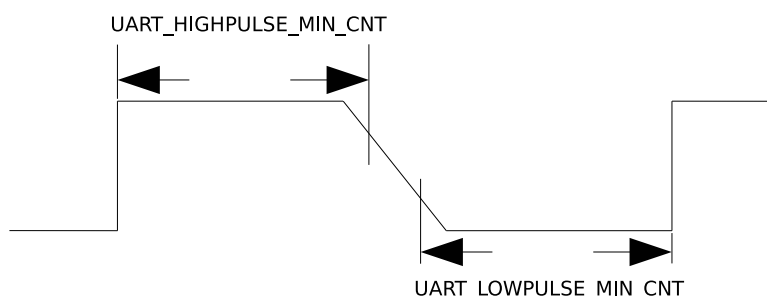

Figure 26.4-3. The Timing Diagram of Weak UART Signals Along Falling Edges
2. If UART signals are weak along falling edges as shown in Figure 26.4-3, which leads to an inaccurate average of `UART_LOWPULSE_MIN_CNT` and `UART_HIGHPULSE_MIN_CNT`, use `UART_POSEDGE_MIN_CNT` to determine the transmitter's baud rate as follows: